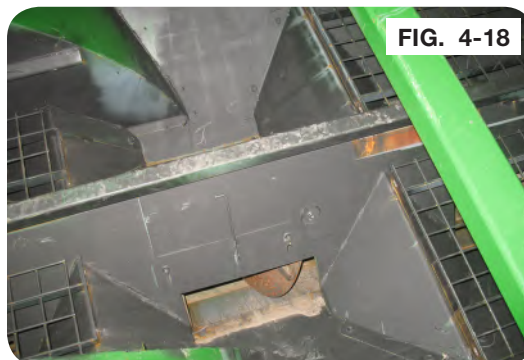

FIG. 4-18
9. Remove the center screens inside the hopper by removing the 3/8" hardware holding them in place. (FIG. 4-18)